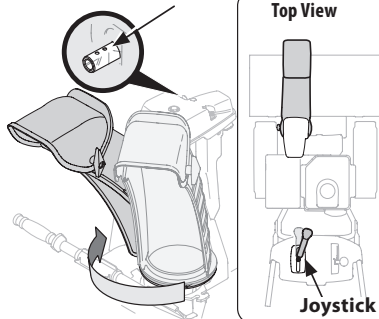

Figure 2-30
4. Squeeze trigger on joystick and rotate chute by hand to face forward. The holes in chute control input will be facing up. See Figure 2-30.